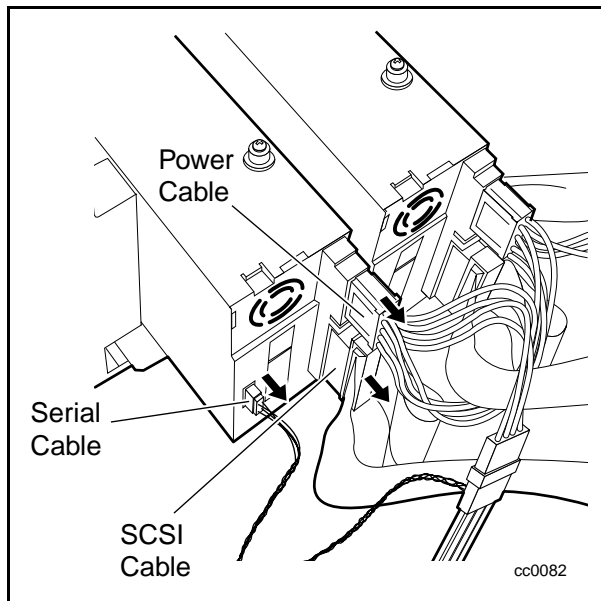

Figure 5-12. Disconnecting the tape drive
7. Disconnect the power, serial cable, and SCSI connectors from the desired tape drive (see Figure 5-12).
- Connect the power, serial cable, and SCSI connectors to the drive (see Figure 5-12).